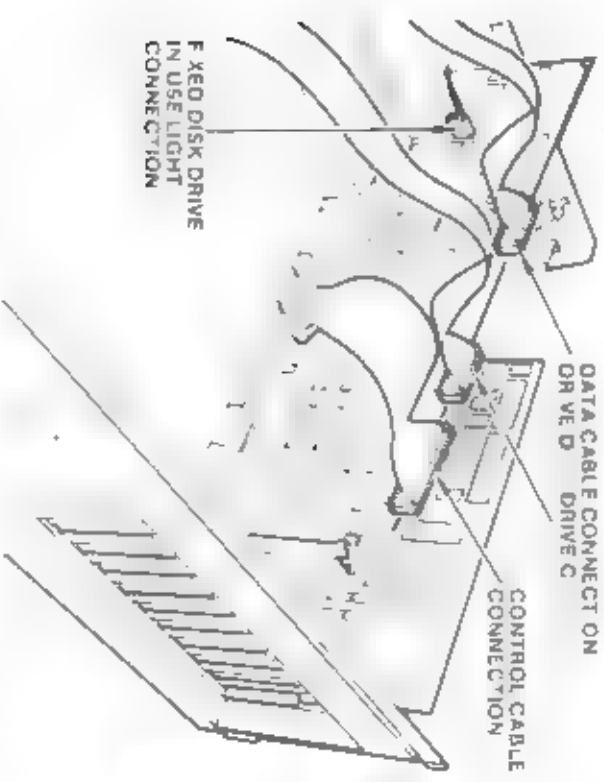

Figure 11-23 Drive in Use Light and Data Cable Connections
14. If the fixed-disk drive controller board is already installed, continue with this step. Otherwise, go to the section on installing the fixed-disk drive controller board. Attach the data cable from drive D to the drive controller board. The red stripe indicates pin 1 (see Figure 11-23).
3. Connect the fixed-disk drive in-use light connector to the controller board (Figure 11-23). The connector may be turned either way, but all four pins must line up with the connector.
- 6 Attach the control cable to the controller board (location J1, as shown in Figure 11-23, with the red stripe on the cable) toward the front of the system unit.
- 7 Attach the data cable for drive C to the controller board (location J2) as shown in Figure 11-23, with the red stripe on the cable toward the front of the system unit.
- 8 If a fixed-disk drive D is installed, attach its data cable to the controller board (location J3) as shown in Figure 11-23, with the red stripe on the cable toward the front of the system unit.